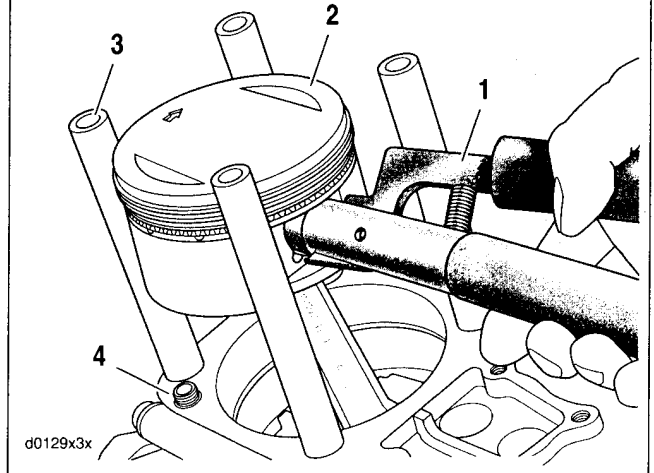

Figure 3-27. Piston Pin Circlip Removal (Part No. HD-42317)
- See Figure 3-27. Remove O-ring from dowel pin (4) on base of cylinder deck. Discard O-ring.
2. See Figure 3-27. Remove the piston pin circlip.
- a. Insert the PISTON PIN CIRCLIP REMOVER/INSTALLER (1) (Part No. HD-42317) into the piston pin bore. Position claw on tool in slot of piston (2) (directly under circlip).